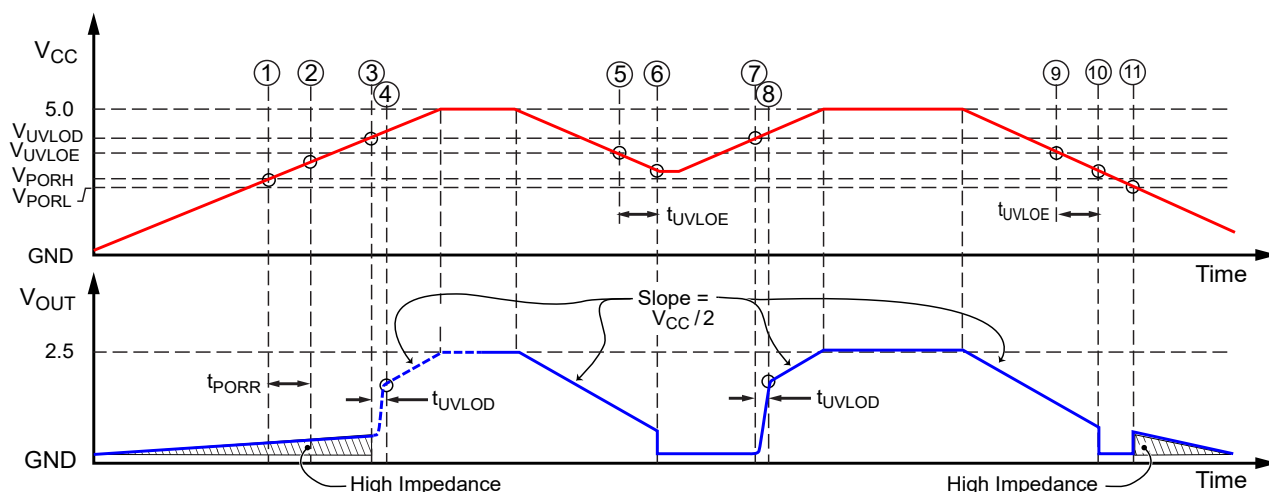
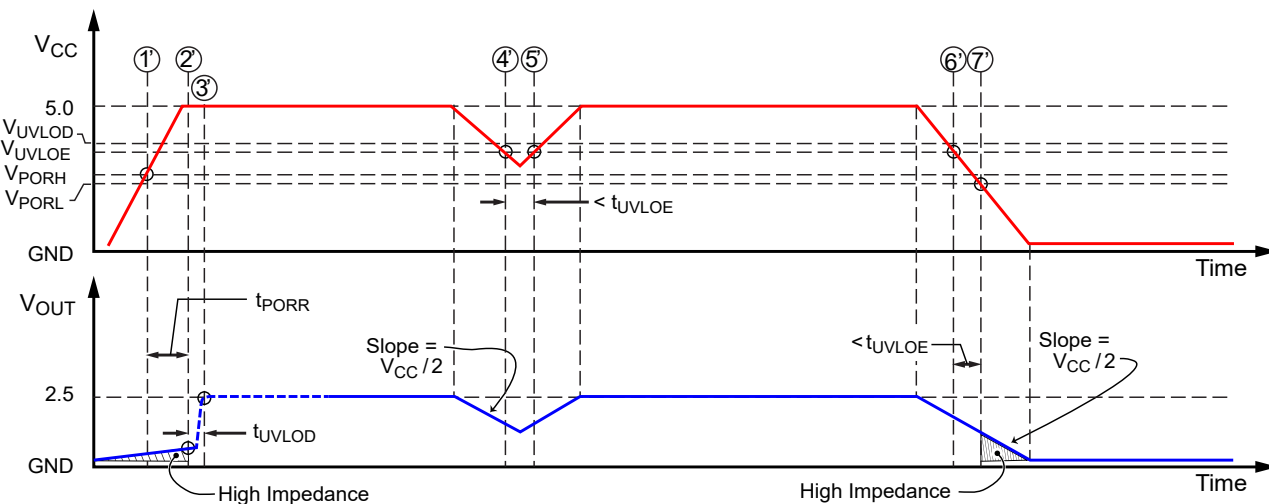

Figure 6: POR and UVLO Operation – Slow Rise Time Case
Figure 7: POR and UVLO Operation – Fast Rise Time Case
- **Power-Up.** At power-up, as  $V_{CC}$  ramps up, the output is in a high-impedance state. When  $V_{CC}$  crosses  $V_{PORH}$  (location [1] in Figure 6 and [1'] in Figure 7), the POR Release counter starts counting for  $t_{PORR}$ . At this point, if  $V_{CC}$  exceeds  $V_{UVLOD}$  [2'], the output will go to  $V_{CC}/2$  after  $t_{UVLOD}$  [3'].